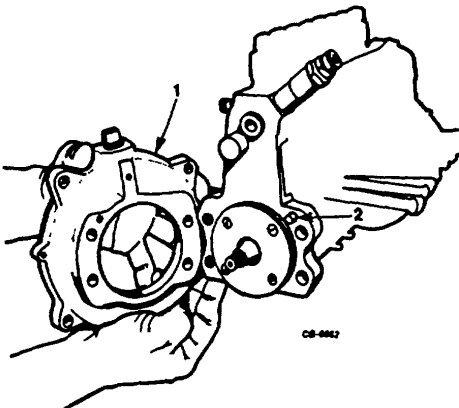

Figure 19. Removing Adapter Housing
6. Remove two remaining adapter to pump housing bolts and remove adapter housing (Figure 19).